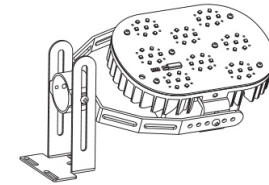

Fig. 3
- Attach Mounting Bracket to fixture. Mounting method will vary by fixture. Adjust lamp to the desired position and tighten hardware (Fig. 3).